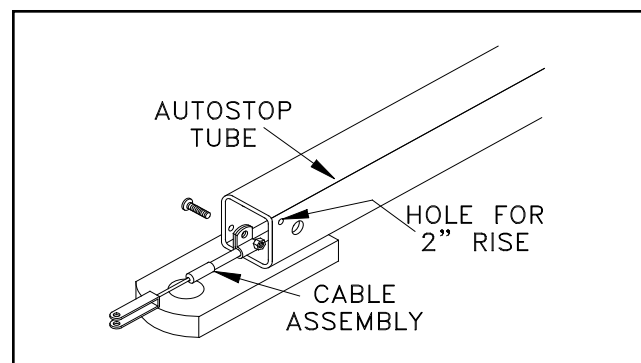

Figure 11
1. Slide the cable assembly back into the AutoStop tube and secure the cable clamp with the round head screw and hex nut. (Figure 11) Leave approximately one inch of cable sheathing extending outside of the AutoStop tube. **NOTE:** As described earlier on page 1, your AutoStop can be configured to give a 2 inch rise. If this is necessary, the AutoStop tube must be rotated 180 degrees and the cable assembly attached to the opposite hole. Remember, the cable assembly MUST protrude out of the lower, driver side of the AutoStop tube when in use.